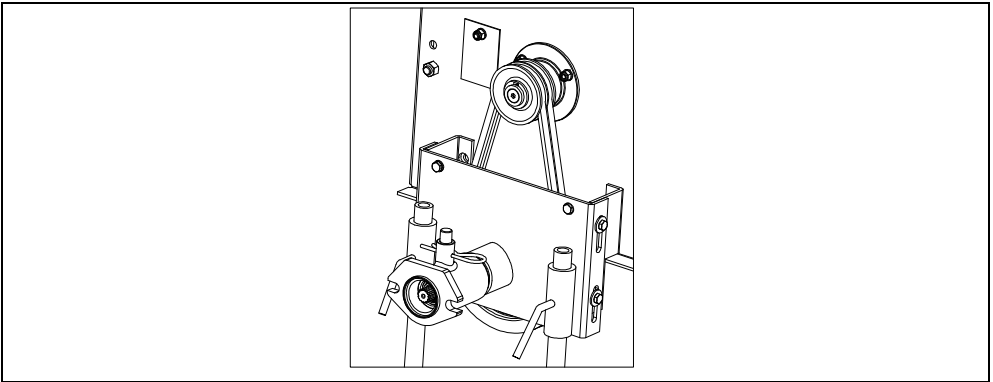

Fig. 26a
- Remove the belt guard (Fig. 26a).